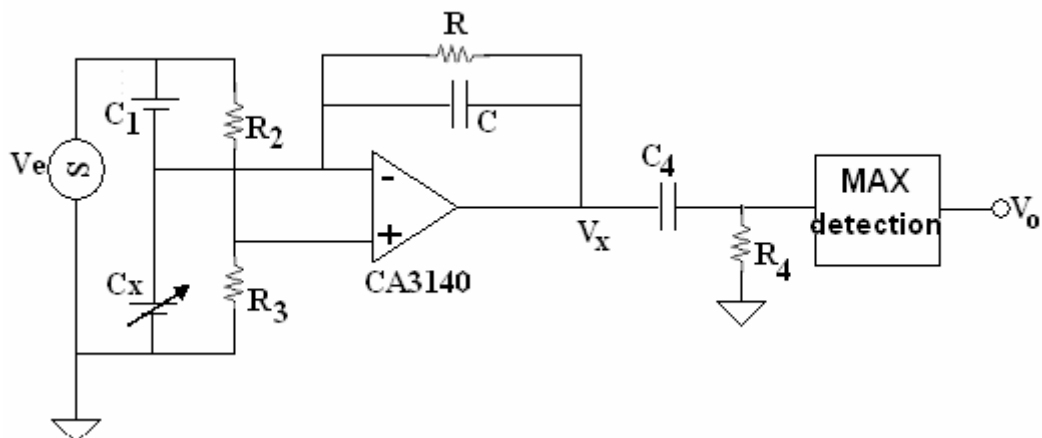

Figure 5
- The circuit in figure 5 is the signal conditioner for a capacitive level sensor that has  $C_{min} = 41.46\text{PF}$ ,  $C_{max} = 87.07\text{PF}$  & sensitivity  $0.19\text{PF/L}$ . Design the circuit components to obtain a frequency independent voltage that is 0V for the empty tank and 1V for the full tank. [16]